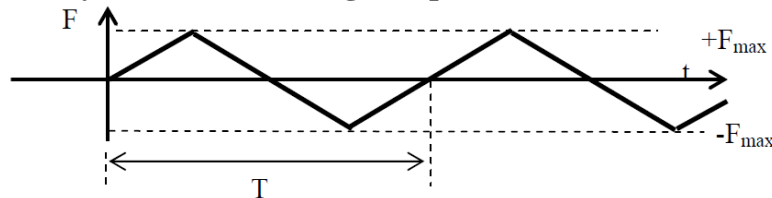

Figure 2. Time history of the horizontal periodic force applied in A.
4. Compute the steady-state response of the horizontal acceleration of B due to a periodic force applied in the horizontal direction in A. The time history of the force is reported in Figure 2 ( $T = 0.1$  s and  $F_{\max} = 1E5$  N). Neglect any contribution of the external force for harmonics higher than the third. Save the result as SNxxx7.fig. Moreover, identify the values of period  $T$  that produce a resonance condition for the structure in the frequency range 0 – 200 Hz (consider just the first three harmonics of the external force). **Describe your reasoning** (see table 1).